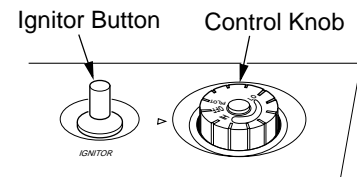

Figure 19 - Control Knob In The OFF Position (Piezo Ignitor Shown)
4. Wait five (5) minutes to clear out any gas. Then smell for gas, including near the floor. If you smell gas, **STOP!** Follow "B" in the safety information above. If you don't smell gas, go to the next step.
5. Turn control knob counterclockwise  to the PILOT position. Press in control knob for five (5) seconds (see Figure 19).
6. With control knob pressed in, push down and release ignitor button (see Figure 19). This will light pilot. The pilot is attached to the front of burner. The pilot can be seen through the glass panel. If needed, keep pressing ignitor button until pilot lights.